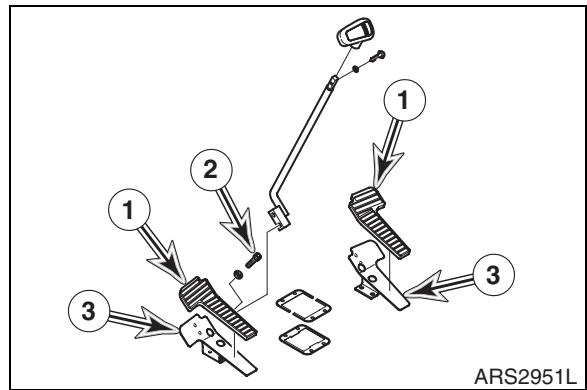

Figure 50
2. Install pedal brackets (3) and levers (4, Figure 50) on pedal valve and install four bolts and washers (2).
3. Install rubber boots (1, Figure 50).